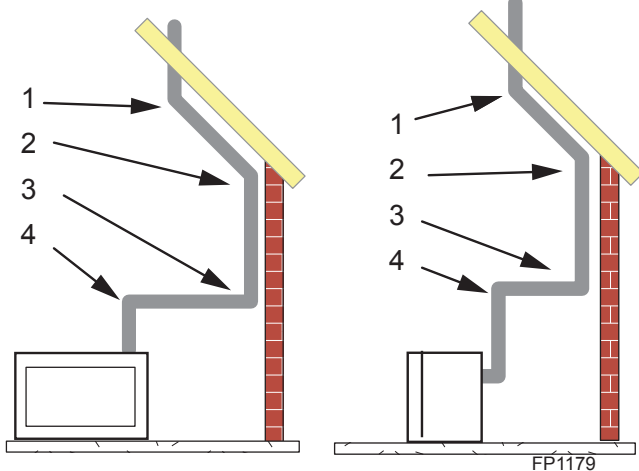

Figure 36 - Maximum Elbow Usage
- The maximum angular variation allowed in the system is 270° . *Figure 36*